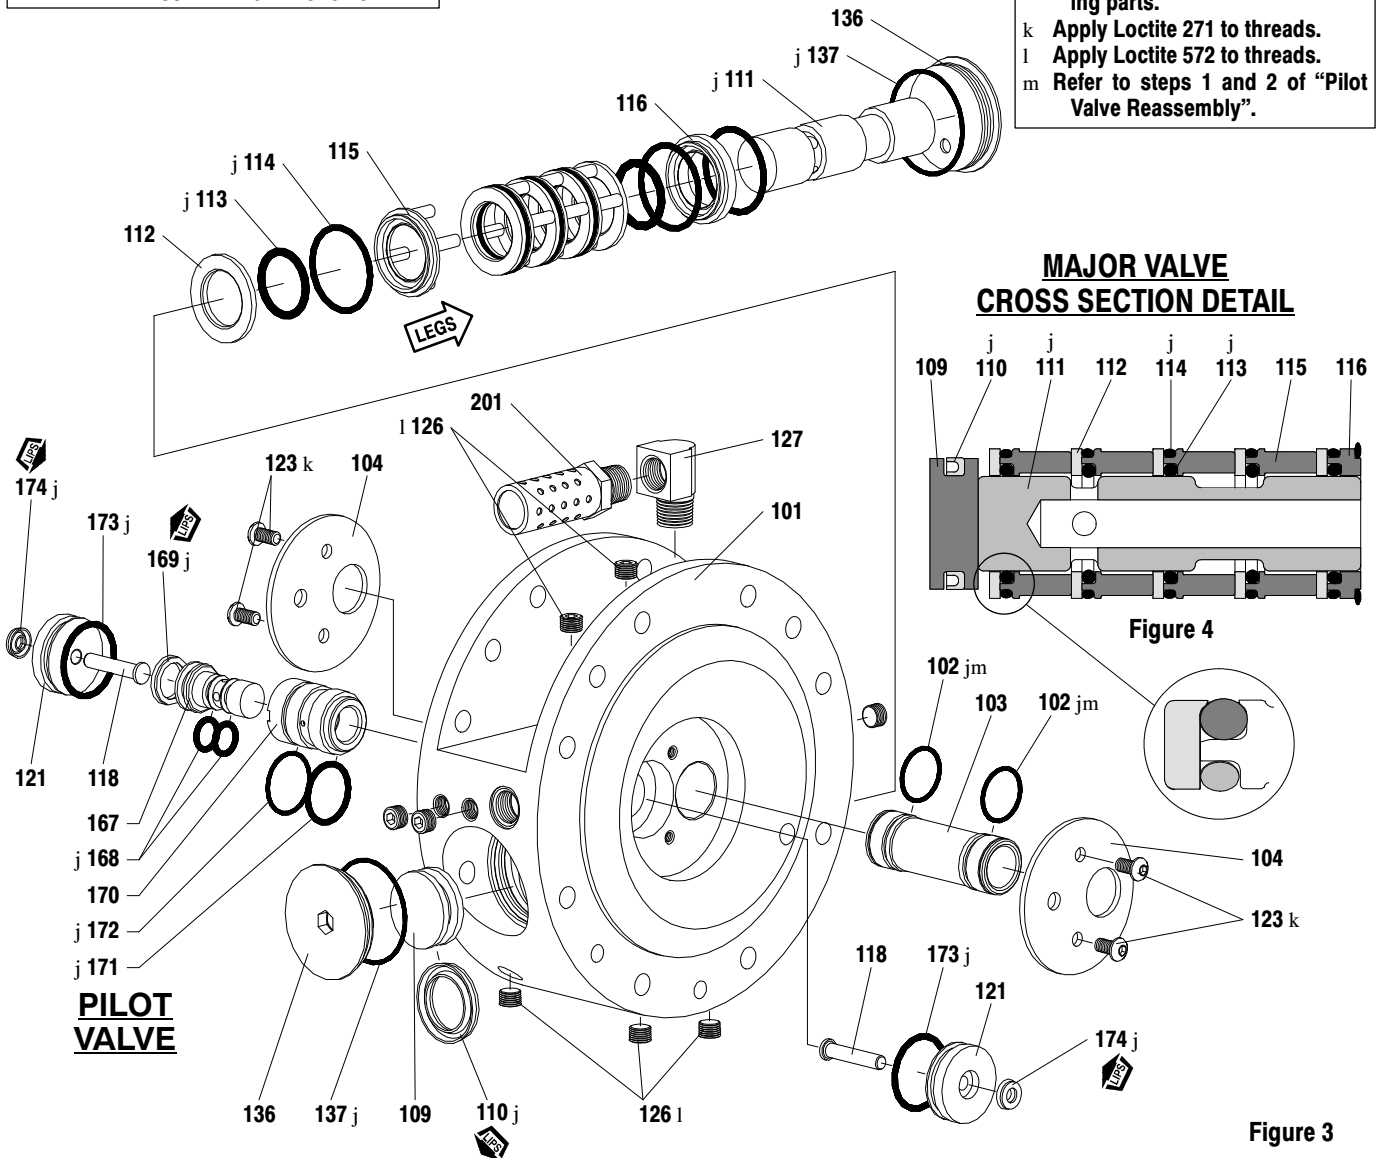

Figure 3
- NOTE: Both outer pump Fluid Sections must be removed to access the Pilot Section parts (see figure 3, page 7).
1. Remove two (123) screws and (104) plate from both sides of the (101) motor center body.